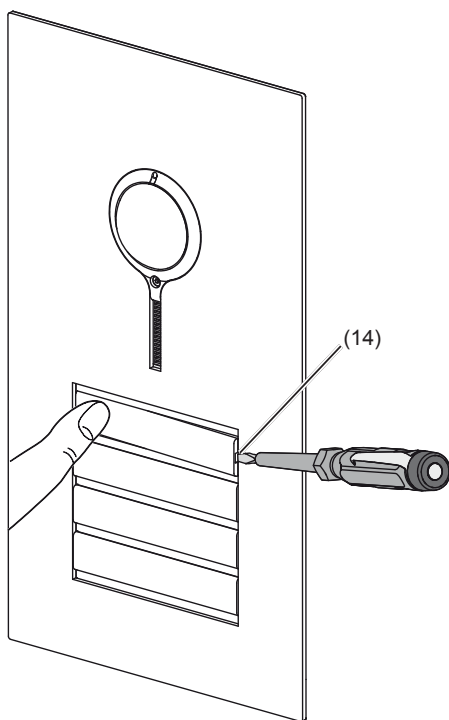

Figure 3: Removing name plate cover
- Position the screwdriver in the lever opening (14) and release the interlock (Figure 3).